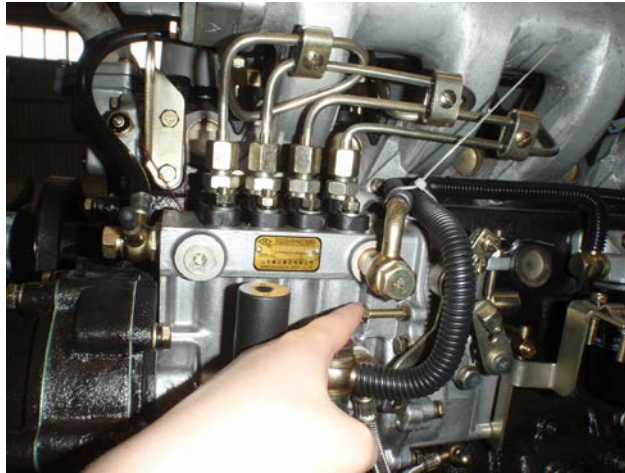

Fig 1-2
(2) Examining whether or not air leak exists, by making use of adjusting rack to adjust the negative pressure of oil injection pump in reference to Fig 1-2
(3) Adjusting the limit of smoke by making use of adjusting screw for limit of